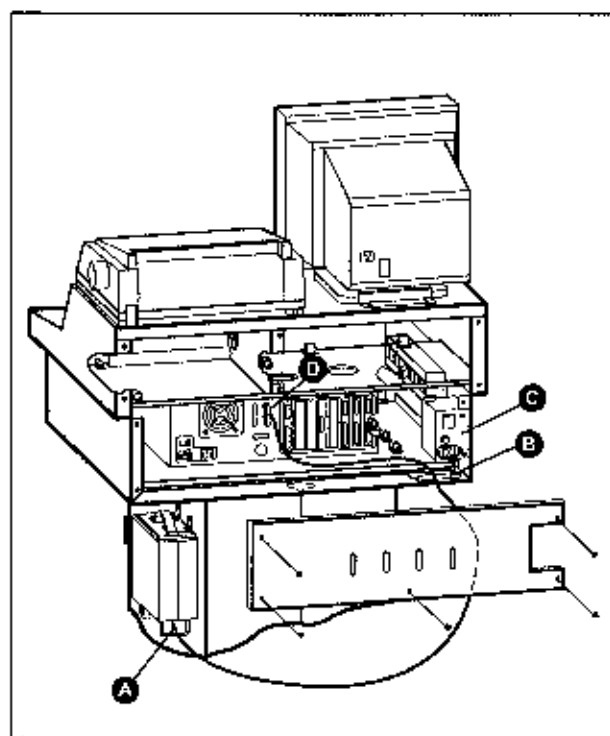

Figure 1-2
1. Route the Engine Analyzer cable (A), (see Figure 1-2), up through the opening (B) underneath the power switch (C).
2. Attach the 25-pin data cable to COM 1 (D).